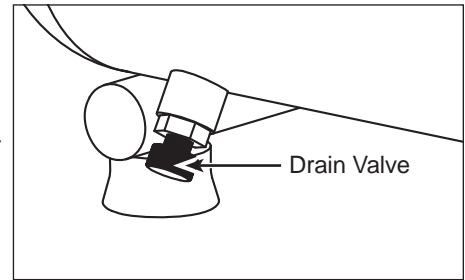

Figure 4
2. With compressor shut off and pressure released: Drain moisture from tank by opening drain valve underneath tank (See Figure 4). The pressure in the tank should be less than 10 psi before opening drain valve.